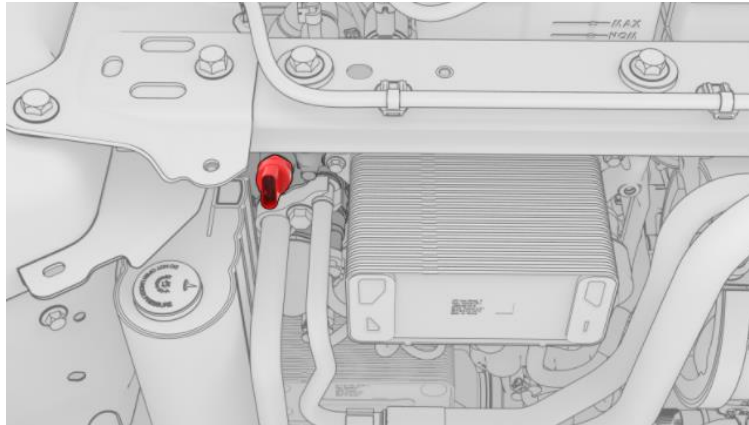

Figure 6
9. Use the HVAC socket kit to remove the low pressure P/T sensor from the Supermanifold (Figure 6).
17. Install the new low pressure P/T sensor (brown connector) into the Supermanifold (Figure 6):